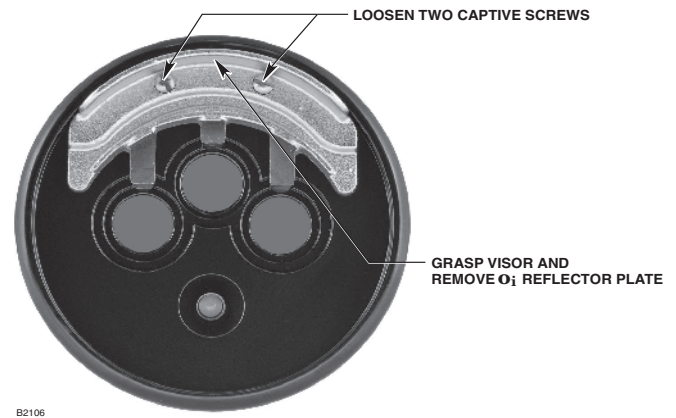

Figure 15—**oi** Reflector Plate Removal
2. Loosen the two captive screws, then grasp the **oi** reflector plate by the visor and remove it from the detector. See Figure 15.